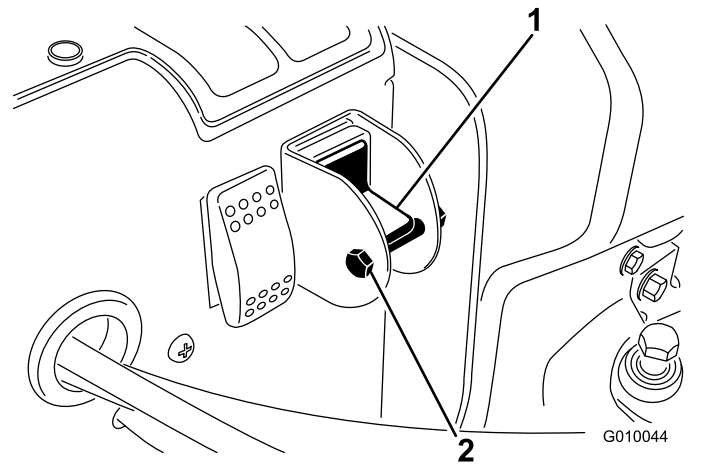

Figure 21
4. Remove the locking bolt and nut from the selector switch (Figure 21).